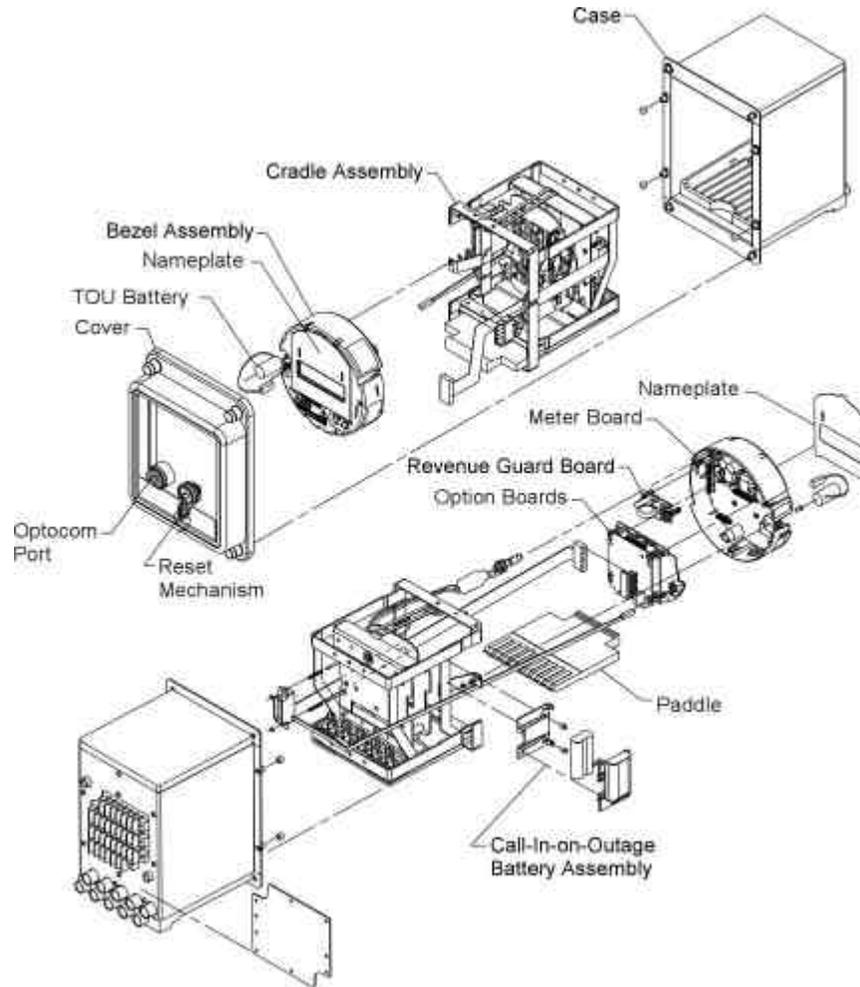

Figure 2-1. Exploded View of kV Switchboard Meter
2.1.1 Removing the Switchboard Cover (Figure 2-1 shows exploded view)